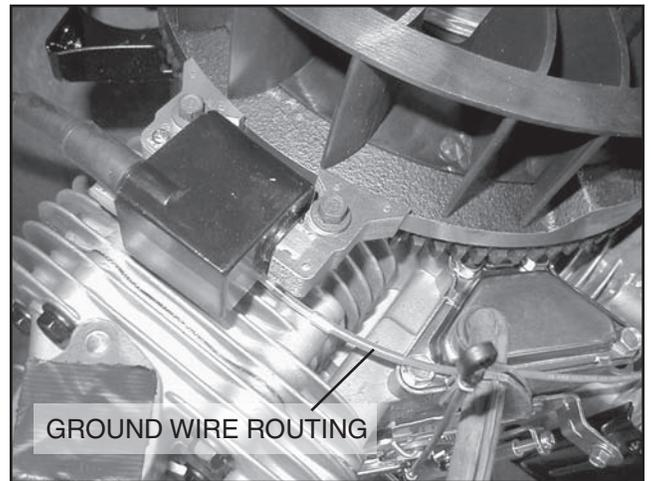

Figure 13-11. Install Coils
4. Assemble ignition coils to engine, Figure 13-11.
Note: The side shown in Figure 13-11 must face up on both coils or the engine will not function properly.